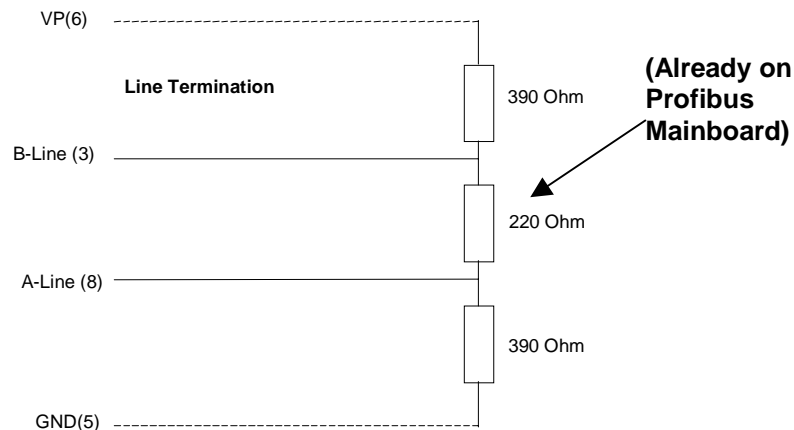

Figure 4.2
- b. It is necessary to terminate both ends of the network. Both terminations must have power to them to insure proper operation of the network. The following diagram (Figure 4.2) illustrates the correct connection for the termination resistors.
NOTE: The above wiring diagram (Fig. 4.2) is for illustrative purposes only. Cabling and connectors must be PTO approved to achieve the desired performance results. See Section 4.3 for recommended part numbers.